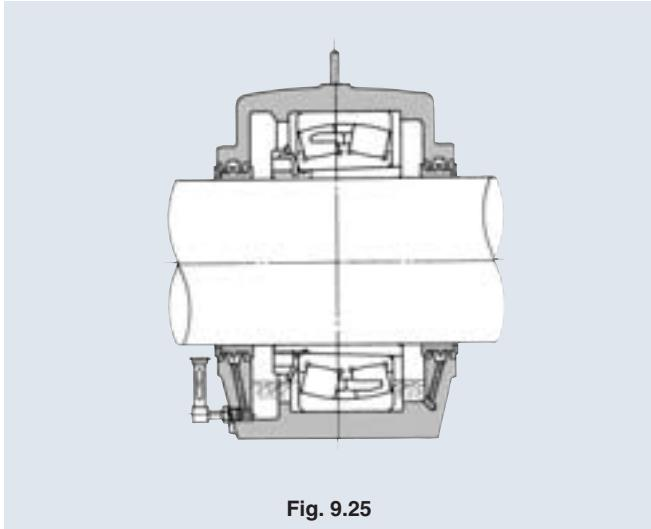

Fig. 9.25
- (5) If the bearing is lubricated with grease, fill the bearing interior with grease, and apply grease to the mating surfaces of the upper and lower plummer block housings. Also, amply apply grease to the sliding surface of the seal. In the case of a self-aligning roller bearing, incline the outer ring to allow a sufficient volume of grease to be packed into the gaps between the rollers and the cage. (For the volume of grease, refer to Section 11.)
- (6) In the case of oil-lubricated bearings, fill the oil up to the center of the lowest rolling element. (See **Fig. 9.25.**)